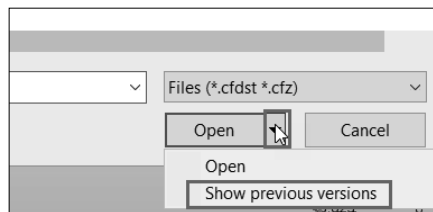

Figure-14. Show previous versions option
- Select the design study file which you want to open and click on the **Open** button from **Open** dialog box. The file will open in Autodesk CFD along with the access of all tools. If you want to open previous version of current open project then click on the down arrow next to **Open** button in the **Open** dialog box and select the **Show previous versions** option; refer to Figure-14. Previous versions of project will be displayed in the dialog box.